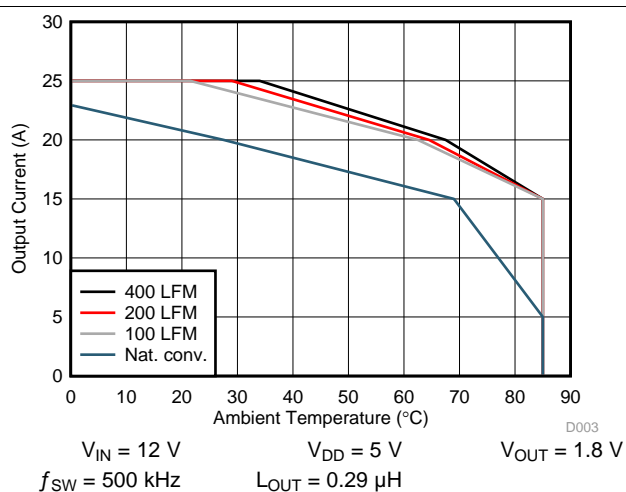
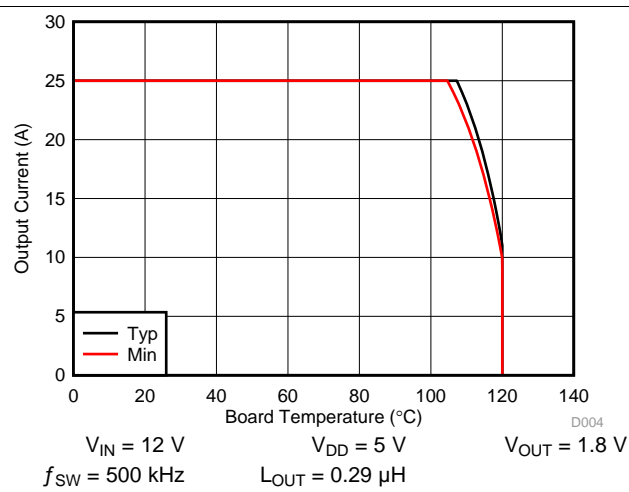

Figure 3. Safe Operating Area – PCB Horizontal Mount ⁽¹⁾
Figure 4. Typical Safe Operating Area ⁽¹⁾
The SOA curves in the CSD97374Q4M data sheet give engineers guidance on the temperature boundaries within an operating system by incorporating the thermal resistance and system power loss. Figure 3 and Figure 4 outline the temperature and airflow conditions required for a given load current. The area under the curve dictates the safe operating area. All the curves are based on measurements made on a PCB design with dimensions of 4 in (W) \times 3.5 in (L) \times 0.062 in (T) and 6 copper layers of 1-oz copper thickness.